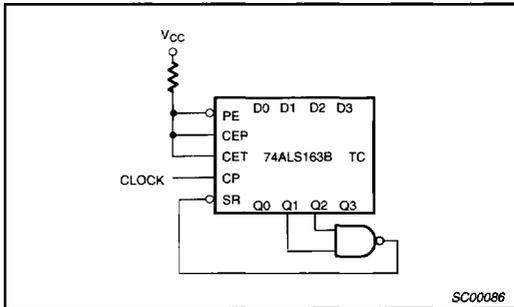

Figure 1. Maximum Count Modifying Scheme
For the 74ALS163B the clear function is synchronous. A Low level at the synchronous reset (\overline{SR}) input sets all four outputs of the flip-flops (Q0 – Q3) to Low levels after the next positive-going transition on the clock (CP) input (provided that the setup and hold time requirements for SR are met). This action occurs regardless of the levels at CP, PE, CET and CEP inputs. The synchronous reset feature enables the designer to modify the maximum count with only one external NAND gate (see Figure 1).